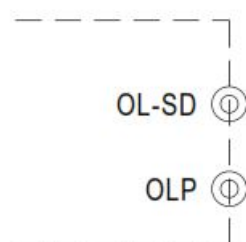

Fig. 5.2 Remove the CN3
1. Insert the shorting connector on CN3 that is shown in Fig 5.2, the Overload Protection Type will be "constant current limiting with delay shutdown after 5 seconds, re-power on to recover". This is the factory default.